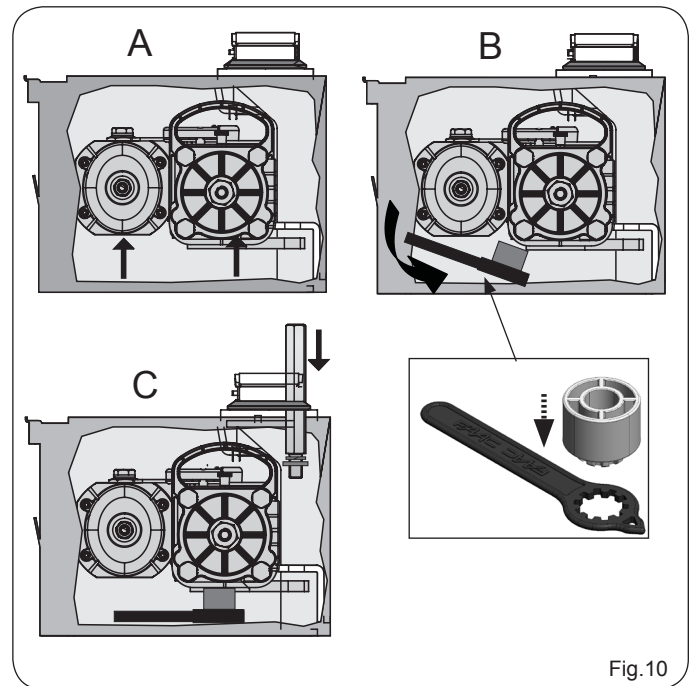
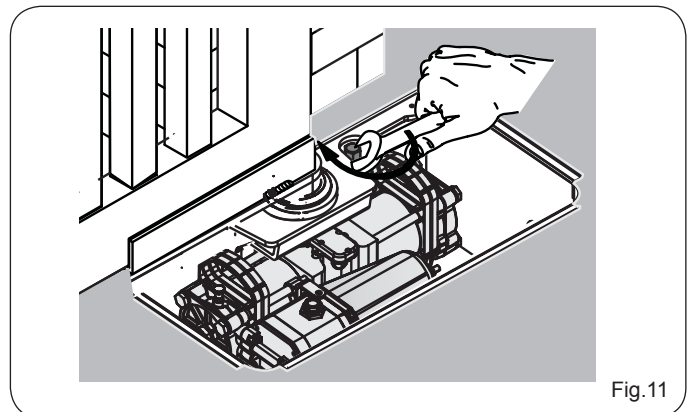

Fig.10
Fig.11
9) Raise the operator with its handles (Fig.10 ref. A), inserting the pinion in the grooved bushing of the bearing case. To facilitate the operation, slightly rotate the operator until coupling takes place.
10) Place the supplied plastic wrench with the spacer under the operator, as shown in figure 10 ref. B, C
12) Insert and screw in the fastening screws with the supplied lockwasher as shown in Fig. 10 ref. C, in order to secure the operator to the load bearing box as shown in Fig. 11.